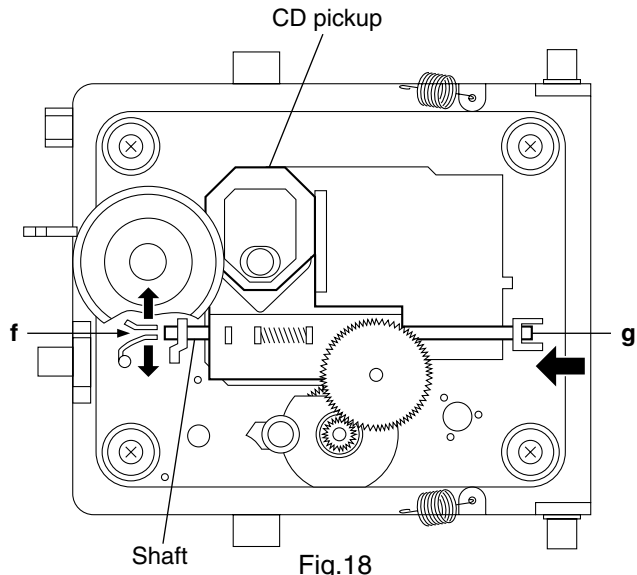

Fig.18
■ **Removing the CD pickup (See Fig.18)**